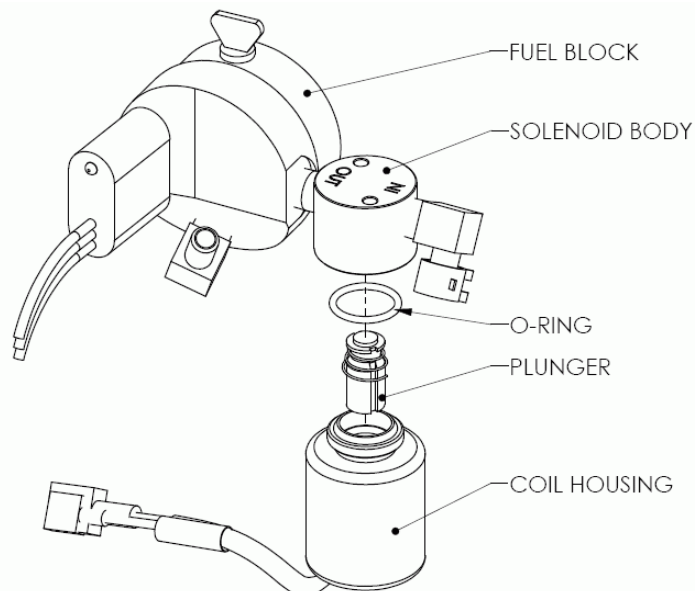

Figure 14: Fuel solenoid components
5. Remove the 2 nylocks (see Figure 14) from the fuel pump (using a 7/16" socket) and remove it from the burner box.